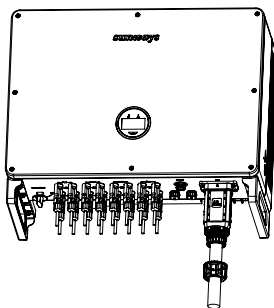

Figure 4-20
- ④ Insert the flat cable of the display back to its place and put back the right roof cover and lock with its original screws. As shown in Figure 4-20: